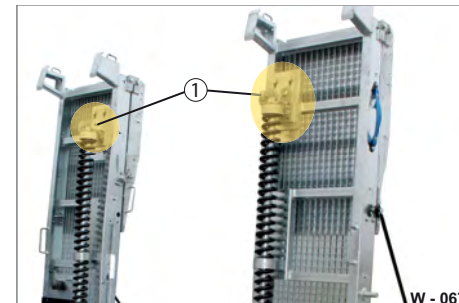

Fig. 17 Upper ramp bearing point, suspended lifting gear
- ▶ Lubricate the bolt (Fig. 17/1) with machine grease.